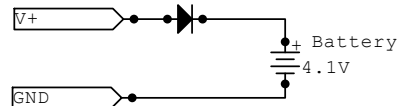

Figure 4. Simple charging circuit.
*Figure 4* shows the simplest of charge circuits, where the voltage applied to the battery terminals is the power supply voltage less the forward voltage drop of a diode. The purpose of the diode is to prevent the battery from discharging through the power supply line when main power is lost. The reverse bias leakage of the diode must be very low.